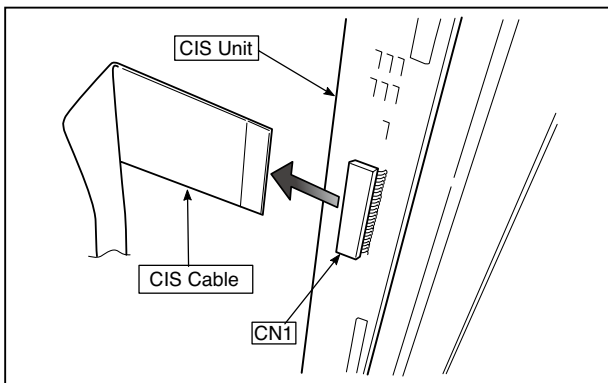

Fig.22
### 16) Remove the CIS Unit. (See Figs. 22~25)
1. Disconnect the CIS Cable (FFC), shown in the figure 22, from a connector.